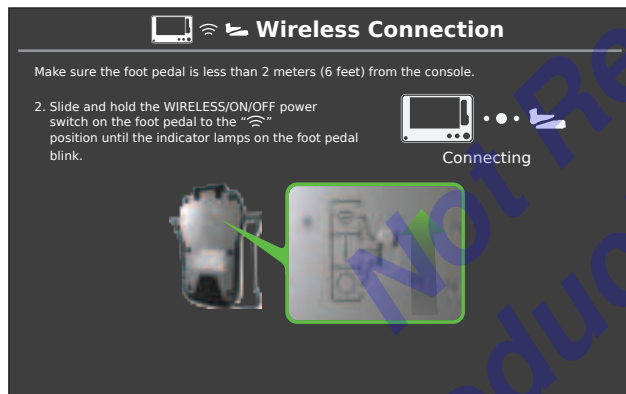

Figure 48 – Foot Pedal Pair Wireless Position
- Slide and hold the WIRELESS/ON/OFF power switch on the foot pedal to the PAIR WIRELESS position until the indicator lamps on the foot pedal blink (Figure 48).